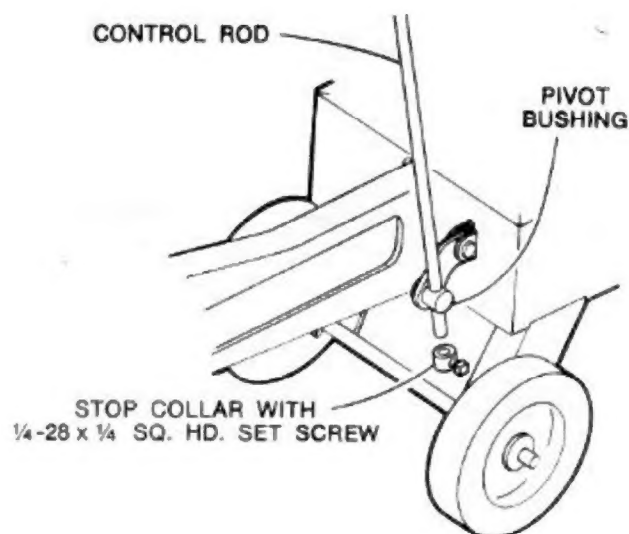

FIG. 8
9. Attach the control rod to the bell crank and control lever, Figs. 8, 9 and 10.
A. Insert the pivot bushing\* into hole in bell crank, Fig. 8.
B. Slide the straight end of the control rod through the hole in pivot bushing, Fig. 8.
D. Turn the  $\frac{1}{4}$ -28 x  $\frac{1}{4}$  sq. hd. set screw\*, Fig. 8, into the hole in the stop collar\*. **Do not tighten set screw.**